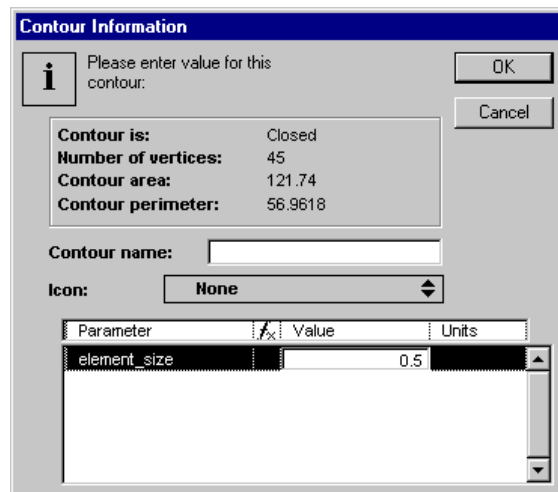

Figure 14. Contour Information dialog box.
2. To draw a domain-outline contour manually, first click on the closed-contour drawing tool . To specify the contour's position and shape, click in the white work area of the window in a sequence of positions to form a nearly closed contour. To close the contour, double-click on the last position desired, then move the mouse away from the last point. The contour automatically closes and the *Contour Information* dialog box appears (fig. 14).
3. This dialog box is used to specify the size of quadrilateral elements. An **element_size** must be specified that refers to the desired typical size of an element side (in the distance units specified for the project). This number is typed into the data box to the right of the word, "**element_size**" and just below the label, "Value." In figure 14, an **element_size** value of 0.5 is specified. Click the OK button to exit the dialog box, and draw additional contours if desired.
Note: The Argus ONE irregular meshing engine fills only the outermost closed contour on the Domain Outline layer with elements. Any interior closed contours are left empty (fig. 14). The recommended procedure is to define a nearly closed open contour in which the distance between the ends of the contour and the outside closed domain boundary contour is roughly the length of the side of a typical element.